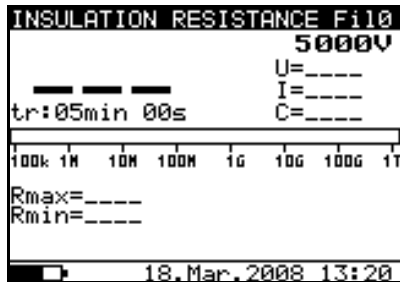
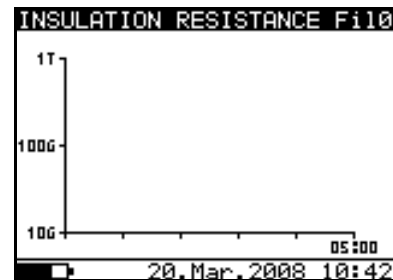

Fig. 16: Initial numerical screen
Fig. 17: Initial graphical screen
2. Select with arrow keys **▼** or **▲** the item “INSULATION RESISTANCE” on main menu and confirm with **SELECT** key. The screen of Fig. 16 is shown by the meter. In case of activation of Graphic R(t) option press arrow keys **▼** or **▲** to select the graphical screen of Fig. 17